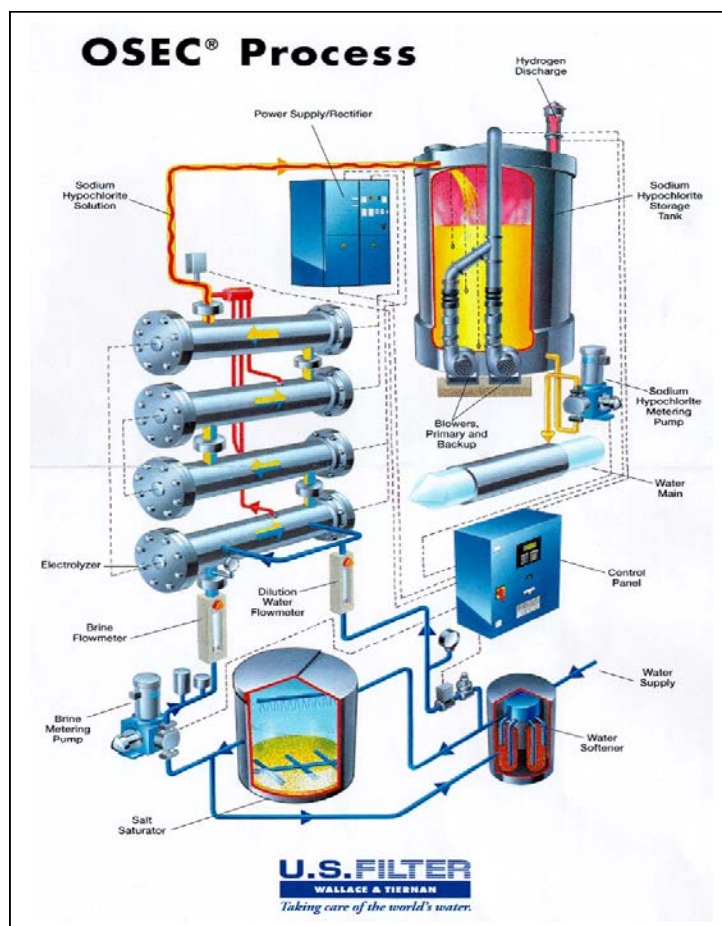

Figure 4.6 On-Site Hypochlorite Generation Process¹
- The brine storage vessel stores salt and softened water where concentrated brine solution is made and stored. (Noted as Salt Saturator in Figure 4.6.)
- The hypochlorite generators are reaction vessels where electrical charge is applied to the brine solution, resulting in the formation of sodium hypochlorite. (Noted as Electrolyzer in Figure 4.6)